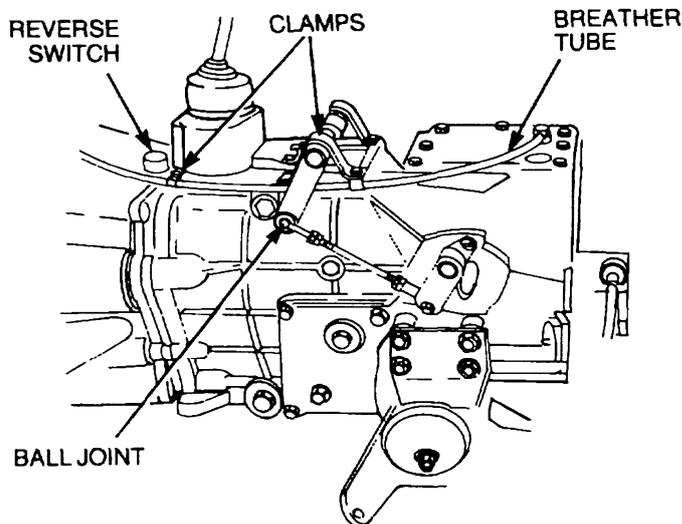

Figure 67 Top Cover Removal
- k. Remove and plug the breather tube installed on the selector cover (Figure 67).